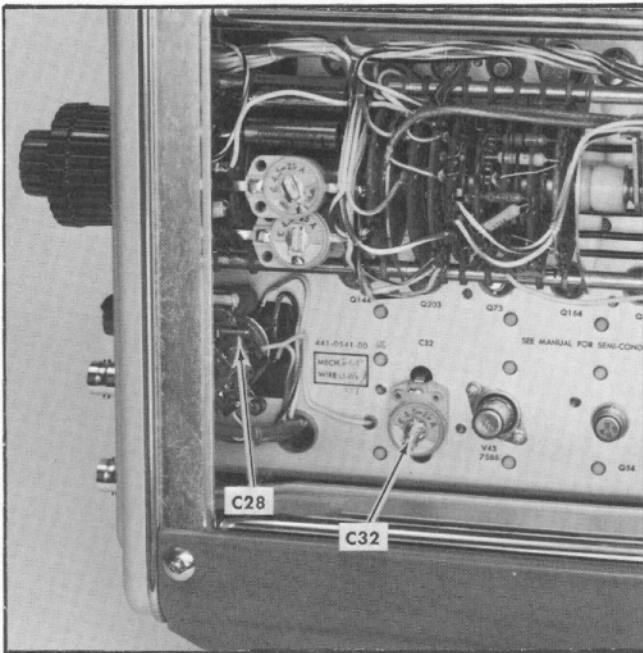

Fig. 5-16. Location of C28 and C32.
- h. ADJUST—C32 (see Fig. 5-16) for the best square corner on the displayed square wave.
- o. ADJUST—C28 (see Fig. 5-16) for the best square corner on the displayed square wave.